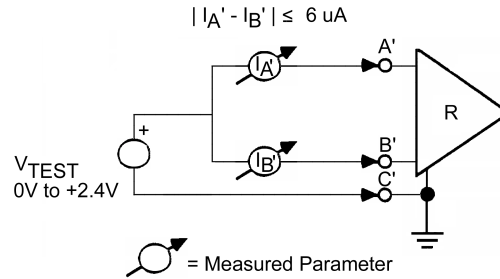
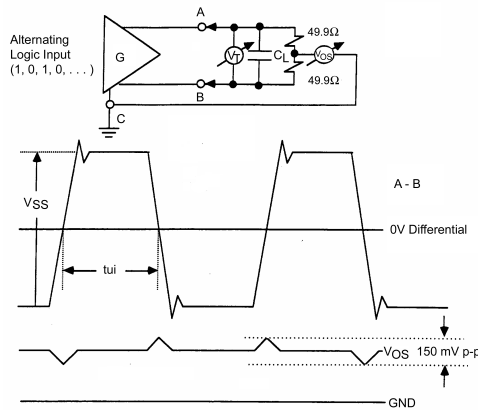

FIGURE 2. Receiver Input Balance Measurements
FIGURE 3. Dynamic  $V_{OS}$  Test Circuit and Waveforms
2. When the true and complement LVDS inputs are connected together to a voltage source that sweeps from 0V to 2.4V with respect to the common ground, then the absolute value of the difference in input leakage current is less than 6μA (see Figure 2)
3. Pull-down resistor is required on the enable (EN) input.
6. When the true and complement LVDS outputs are connected with 49.9Ω resistors each to common point, then the common point does not vary by more than 150mV under all process, temperature, and voltage conditions when the outputs switch either from LOW-to-HIGH or from HIGH-to-LOW (see Figure 3,  $C_L$  = board + pin stray capacitance)